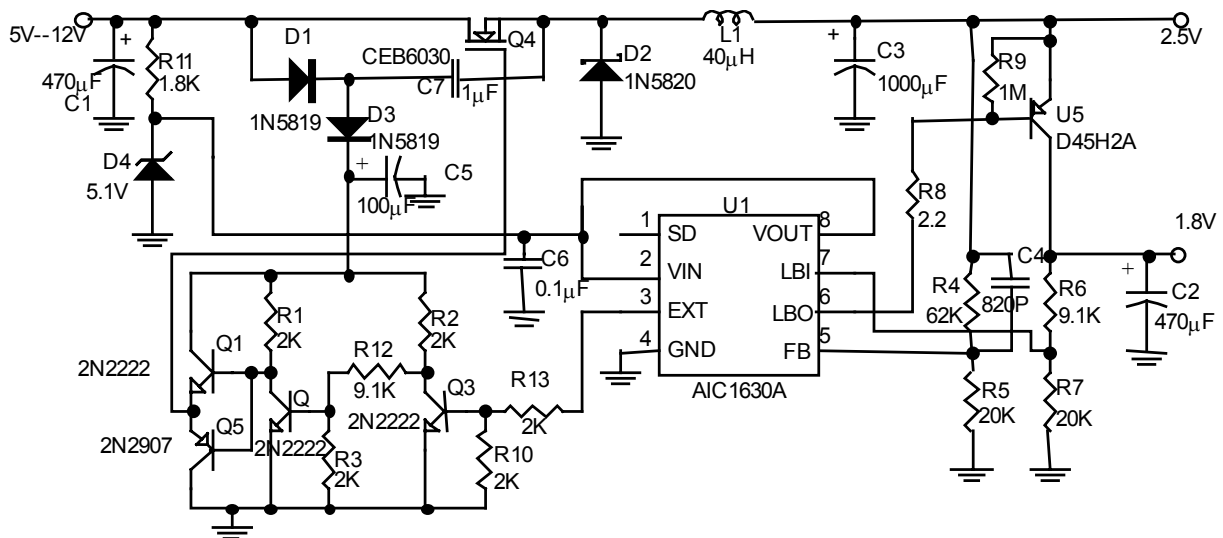

Fig. 4 AIC1630A+LDO for N-MOSFET circuit
AIC1630A with the addition of four external switching transistors is considered as a buck converter, shown in Fig. 4. Via EXT (pin3), the internal switching of IC drives fast driving N-channel circuit, which is composed of Q1, Q2, Q3, and Q5. Bootstrapping circuit (composed of D1, D3, C5 and C7) can provide N-channel circuit with twice as much as the input voltage. When Q4 is on, the diode is used as a reverse biased. Current flows via Q4 as well as the inductor L1 to output polarity. When Q4 is off, the inductor L1 reverses its polarity with its energy transferred to the output loading, and the diode turns forward biased.
1. Input voltage of LDO is provided by the output voltage of buck converter. It can resolve some LDO problems, such as: high dropout voltage and high power consumption. Therefore, the advantage of LDO is to provide a fast transient response, which is what switch converter can not offer. Fig. 4 illustrates that the base current of U5 is controlled by R8 and R9 turns U5 off when LBO floats. Note that, at a light load, R8 and R9 have an effect on efficiency as well as the maximum available output current. And lower R8 and R9 may drive higher output current, but cause AIC1630A N-MOSFET circuit to draw higher level of